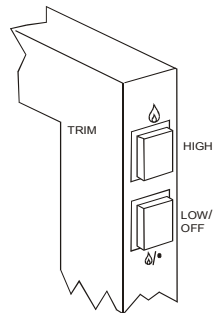
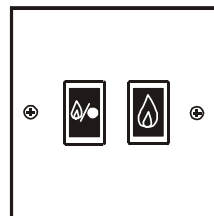

Figure 12 – Trim Switch
Figure 13 - Wall Switch
1. Ensure the main burner is off by pressing the button on the trim marked  ('small flame/dot') until clicking is heard on the valve (see **Figure 12/Figure 13**).
6. Press and hold the  ('large flame') button (in **Figure 12/Figure 13**) until clicking is heard (fully open).